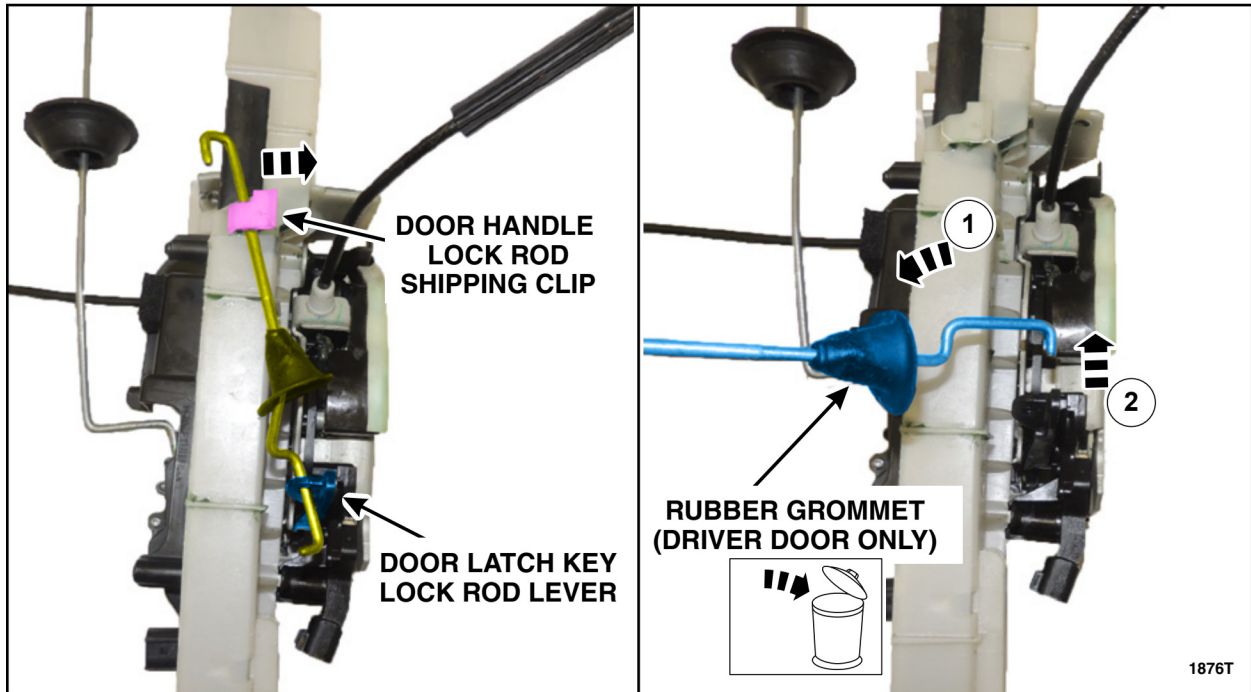

FIGURE 10
13. On the driver side door only, position the exterior door handle key lock rod out of the shipping clip. See Figure 10.
- If present, remove and discard the rubber grommet and then clean the grease from the exterior door handle key lock rod and door latch key lock rod lever. See Figure 10.